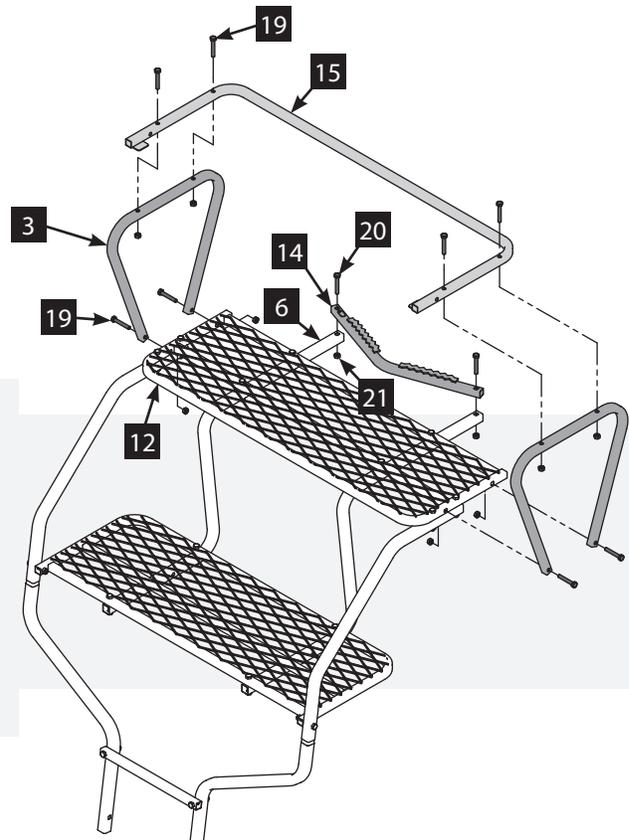

FIGURE 4
6. Attach the tree blade (14) to the platform frame tubes (6) using two 5/16-18 x 2-1/4" bolts (20) and locknuts (21). **SEE FIGURE 4.**
7. Attach both armrests (3) to the outside edges of the seat platform (12) using four 5/16-18 x 2" bolts (19) and locknuts (21). **SEE FIGURE 4.**
8. Attach the backrest (15) to the top of the two armrests (3) using four 5/16-18 x 2" bolts (19) and locknuts (21). **SEE FIGURE 4.**